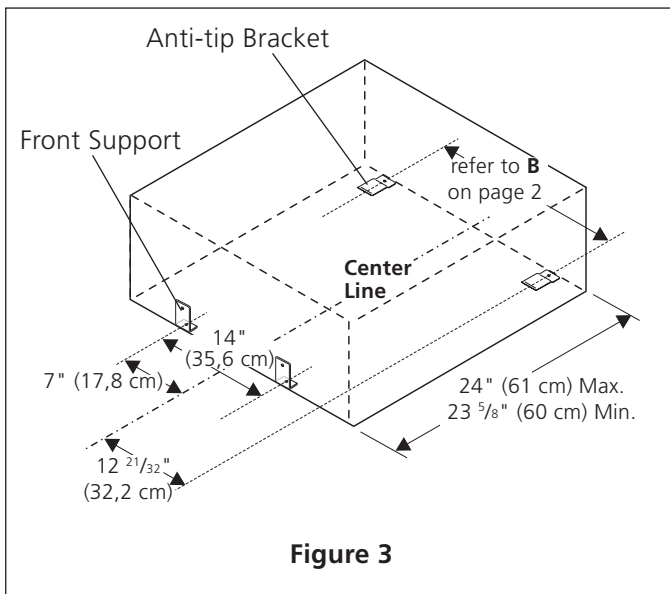

Figure 3
1. Locate the 2 anti-tip brackets and the 2 front supports supplied as shown on figure 3. Fix them using the 4 black head screws (10-16 X 1 1/4") supplied